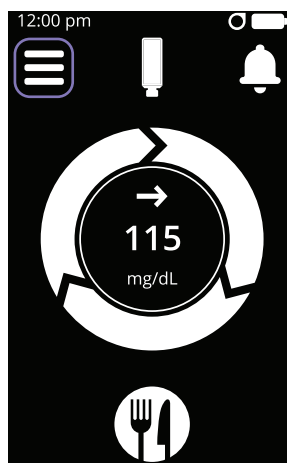

Figure 105
- a. Tap the Menu icon (see Figure 105)
Your iLet Device will alert you when important issues need to be addressed. There are several alert levels (see Figure 105). When multiple alerts occur at the same time, alerts with the highest priority will be displayed first.